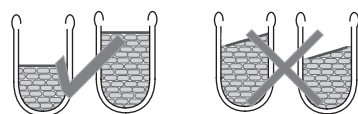

Fig. 1
- ✎ Put the laundry into the spinner tub by putting the small-sized laundry in the bottom area to keep the balance of the tub. (figure 1)